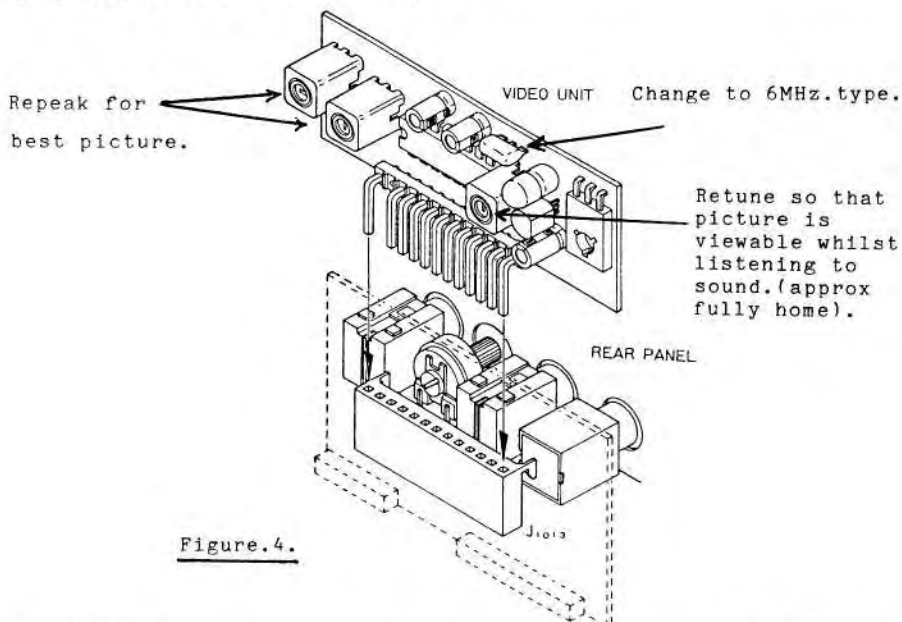

Figure.4.
The differences between NTSC (never twice the same colour!) and PAL (peace at last!) are that (1) the sound sub-carrier is set at 4.5MHz above the vision carrier, whereas on PAL the sub-carrier is at 6MHz above and (2) that the colour sub-carrier is at 3.58MHz instead of the PAL standard of 4.43MHz. To enable the sound to be received the filter must be changed to a 6MHz type and the AM detector retuned so that it is 6MHz lower than the vision carrier, this is best done whilst viewing a picture, once the sound has been tuned in the two-stage filter needs to be tuned for the best picture quality, see Fig.4.